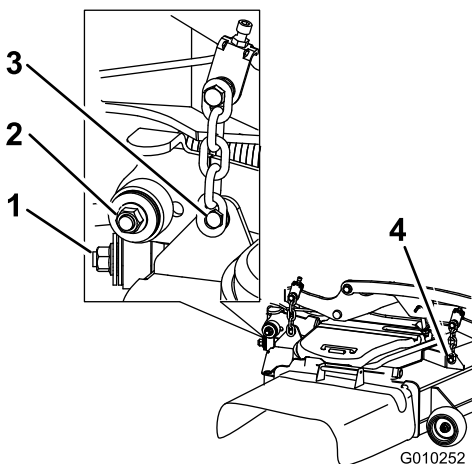

Figure 101
7. Remove and retain the hardware on both sides of the deck (Figure 101).